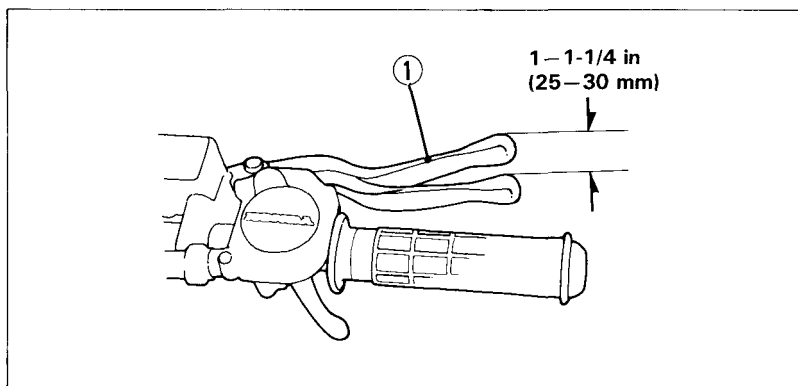

Fig. 4-21
1. Measure the distance the brake lever (Fig. 4-21) moves before the brakes start to take hold. Free play, measured at the tip of the front brake lever (1) should be within 1 – 1-1/4 in (25 – 30 mm).